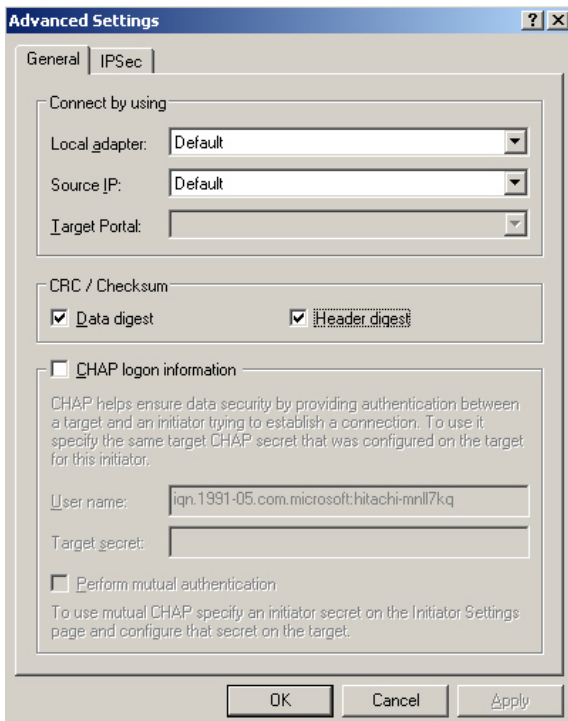

Figure A.10 Advanced Settings Dialog Box
8. Click **Advanced**. The Advanced Settings dialog box displays (see Figure A.10).